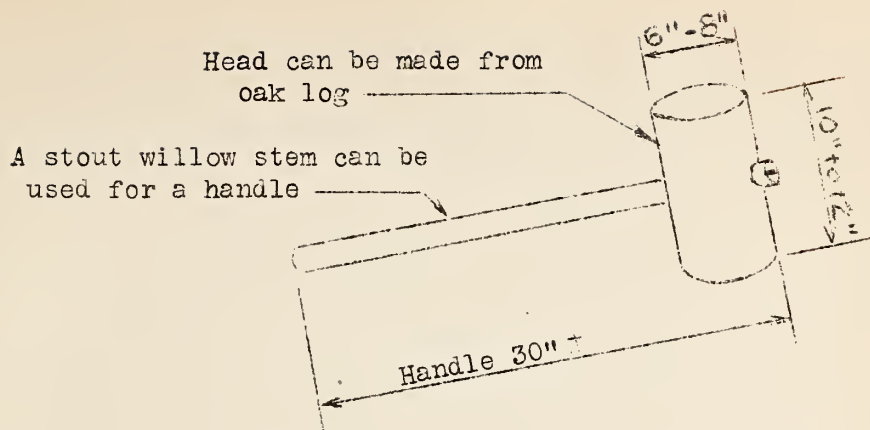

Figure 1.
3. In fairly soft soil the stakes can be driven with a wooden maul, constructed as shown in Figure 1. Do not use an ax or a sledge.